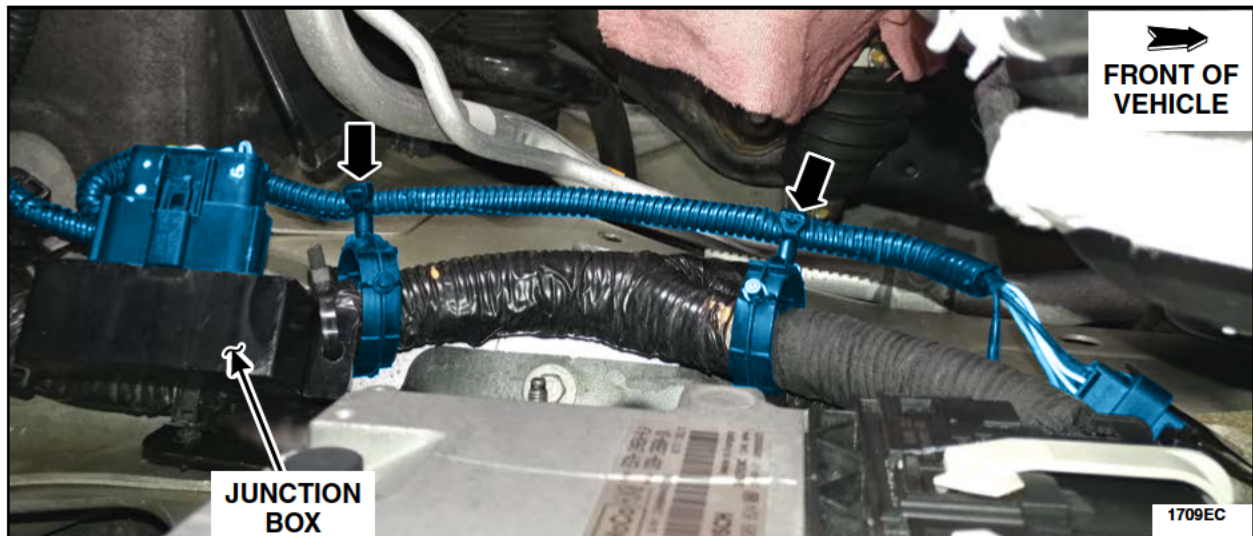

FIGURE D3
4. Route the coolant stand-pipe wire harness stand pipe electrical connector and ground eyelet wire along the lower PCM connector wire harness. Secure the stand-pipe wire harness as shown in Figure D3.